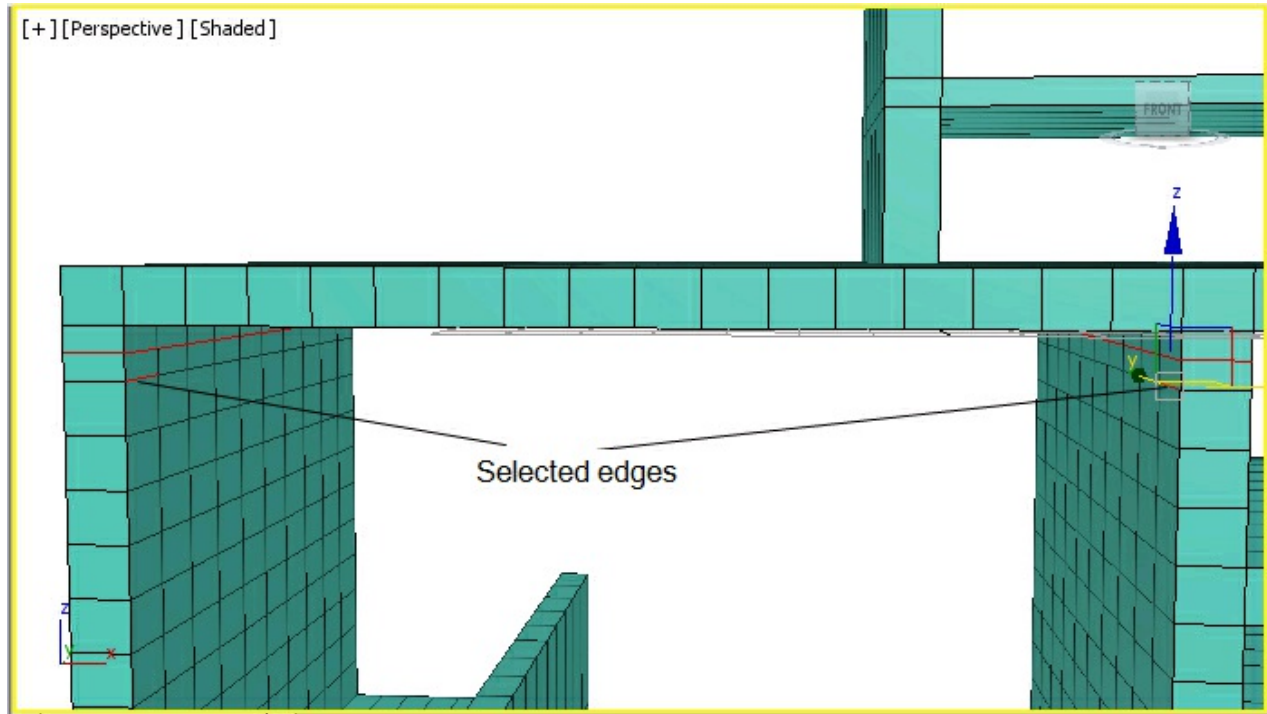

Figure 9-85 Two edges selected
3. Make sure that the added edge loops are selected. Next, press the CTRL key and select two more edges from the lower part of *computer table*, as shown in Figure 9-85.